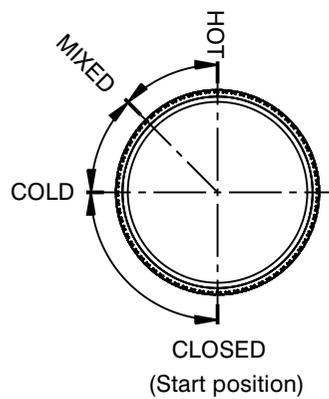

Fig. 2
- \* **This mixer is fitted with a 'Progressive' cartridge. To operate the cartridge, the handle is rotated clockwise (Fig.2). The first 90° of handle rotation will only select cold water, avoiding unnecessary use of hot water. Further rotation of the handle will deliver a mixture of hot and cold. When the handle is rotated fully clockwise, only hot water will flow.**